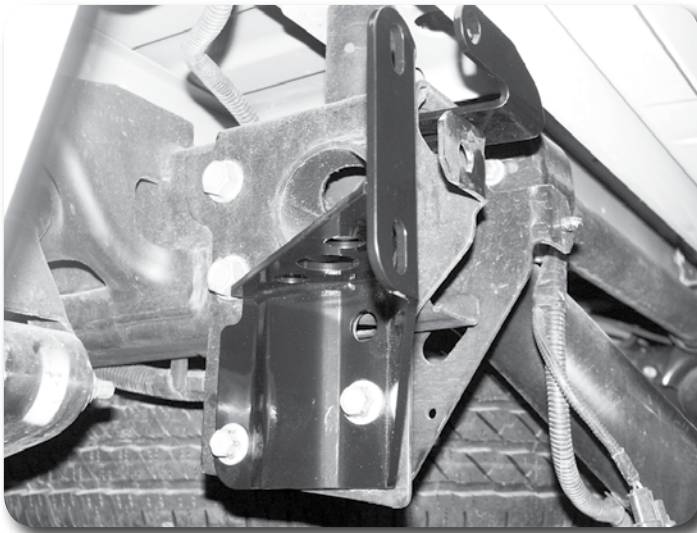

Figure 33
90. Remove the factory outside rear bumper brackets and install the new provided ones in their place with the original hardware **Figure 33**. Torque bolts to 35 ft-lbs.